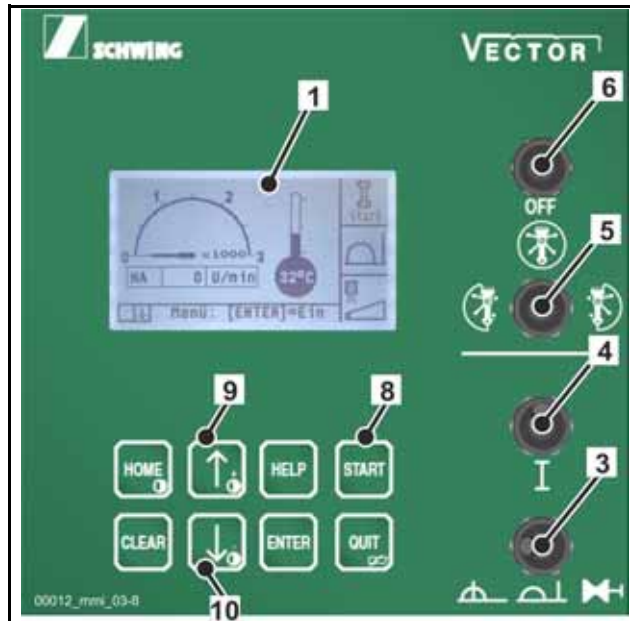

Fig. 552
- Confirm your intention by pressing the "START" button (8) (Fig. 552).
If selector switch (5) (**Fig. 552**) is pressed during the installation of the machine, the following message will appear: